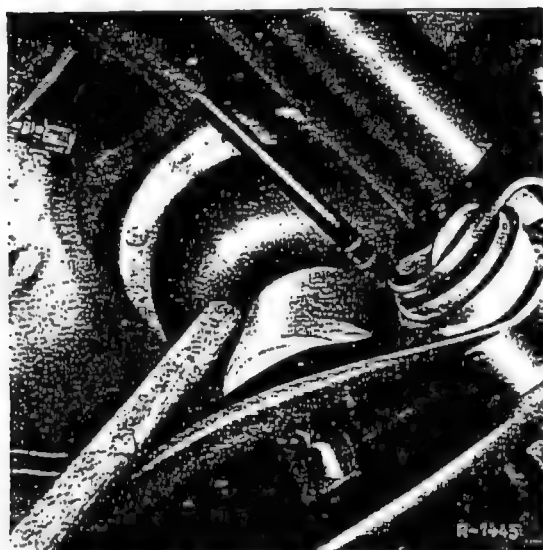

Fig. 32-14/8
4. Disconnect the lines (two on the left, one on the right) from the air chamber (Fig. 32-14/7).